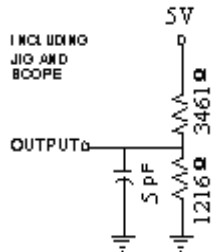

FIGURE 1B
6. Transition is measured $\pm 500mV$ from steady state with $C_L = 5pF$ as shown in Figure 1B. The parameter is guaranteed but not 100% tested.
10. Transition is measured $\pm 500\text{mV}$ from steady state with $C_L = 5\text{pF}$ as shown in Figure 1B. The parameter is guaranteed but not 100% tested.